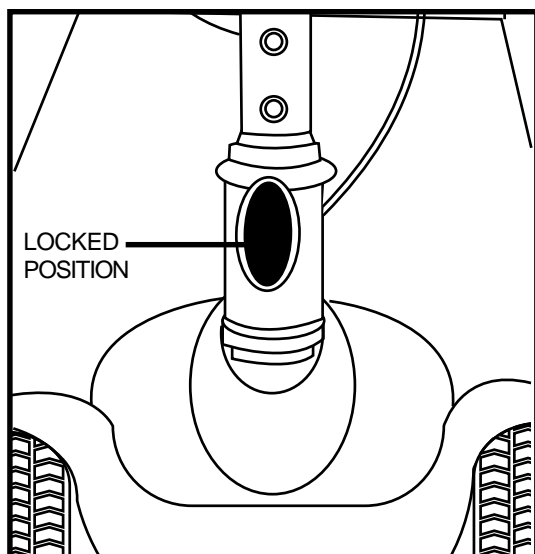

Figure 17. Tiller Lock Knob (Locked)
1. Lock the tiller in the straight ahead position by pushing the tiller lock knob in and turning it clockwise 90°. **See figure 17.** The front wheel must face forward in order to lock the tiller.